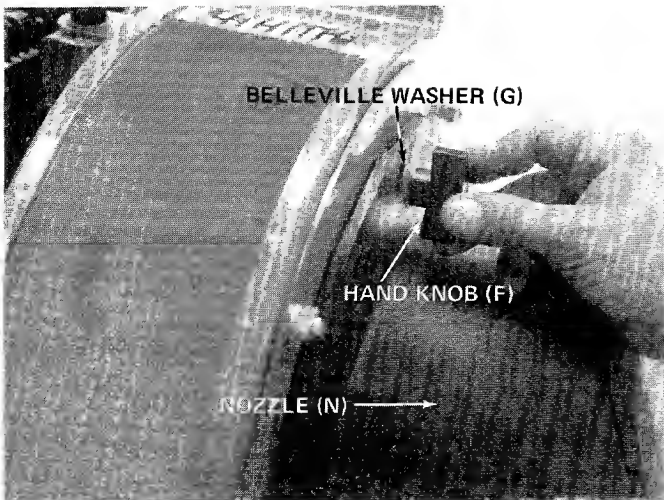

FIGURE 3.
1. Place nozzle (N) in position on front of housing so that it rests in flanges. Secure with one hand knob (F) and belleville washer (G). See figure 3.